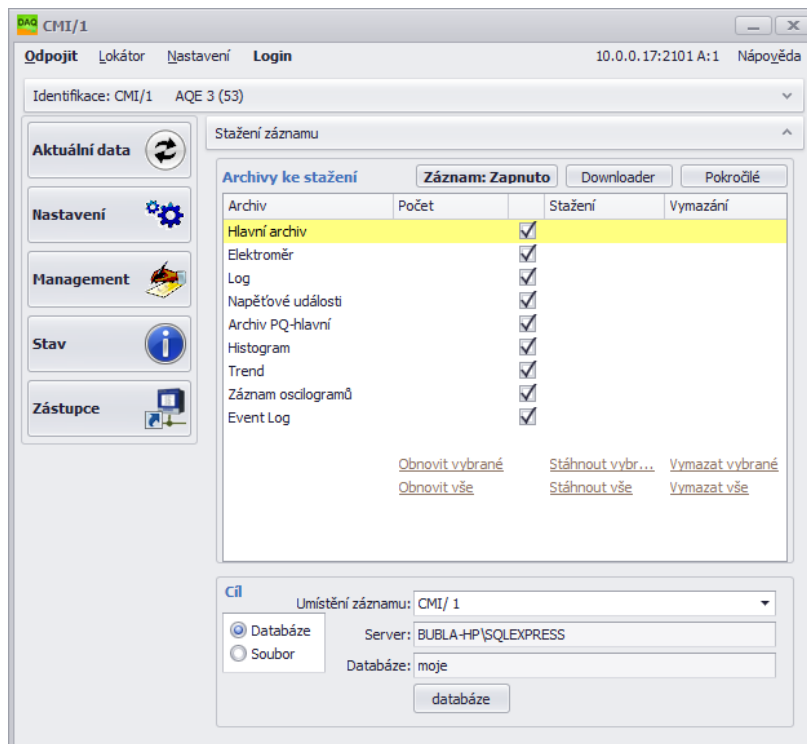

Figure 12: ENVIS.Daq application window with connected analyzer.
5. Press *Connect* on menu or *ENTER*. The application attempts to connect to the specified device. If the connection is successful, it loads the settings stored in the device and displays a summary window (fig. 12).